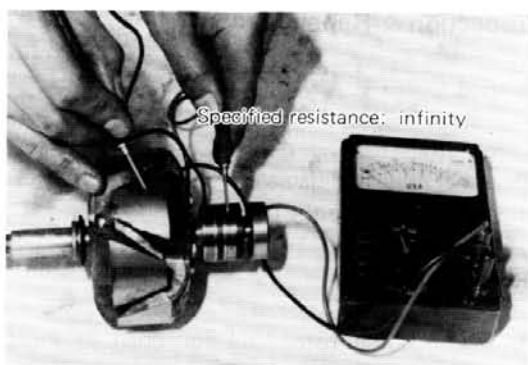

Fig. 5-14 Testing Rotor Coil for Ground
2. Connect the tester from the slip ring to the rotor or rotor shaft, and check the insulation between them as shown in Fig. 5-14. If the tester needle moves, the rotor coil or slip rings are defective. The rotor assembly should be replaced.